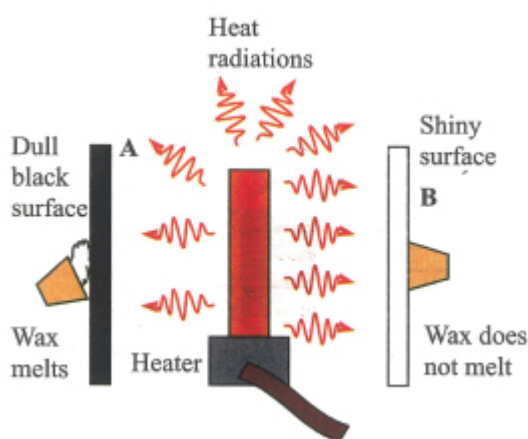

Figure 9.12 Dull black surfaces absorb heat better than shiny surfaces.
- Two metal plates having the same size are arranged as in Figure 9.12. Plate A is painted with dull black paint while plate B is polished.
- A heater (H) is placed at the middle of the plates so that the plates receive equal amount of heat radiation.
- When the heater is switched on, the cork at the back of the dull black plate (A) drops first, while the cork at the shiny or polished plate remains.